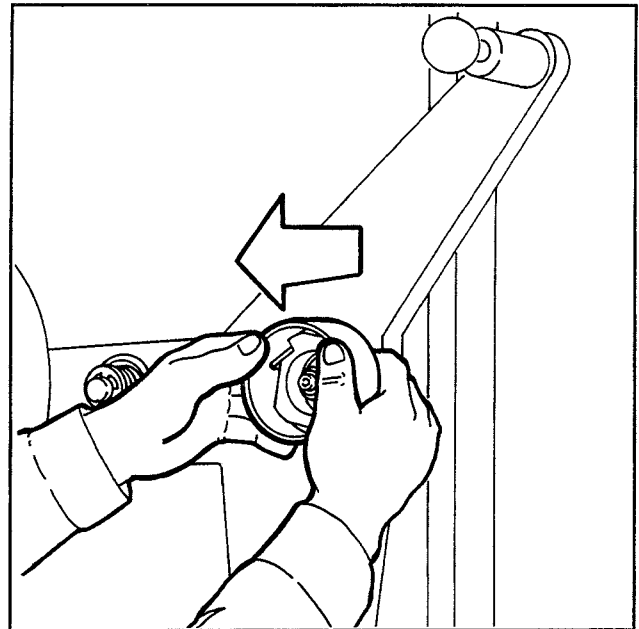

Figure 3-2 – Operation
1. Remove empty tape roll core from right hand tape drum. Figure 3-2.